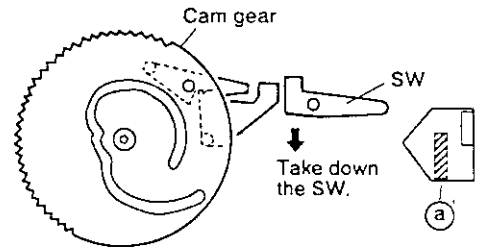
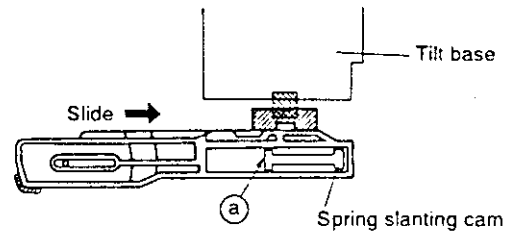

Fig. 6-18
Fig. 6-19
- ① Set the cam gear as shown in the Fig. 6-18 and take down the SW.
- ② Engage the (a) of the spring slanting cam with (a)'.
- ③ Set the position of the projection tipped of the tilt base is on the edge of the spring slanting cam. And slide the spring slanting cam in the direction of arrow. (See Fig. 6-19).